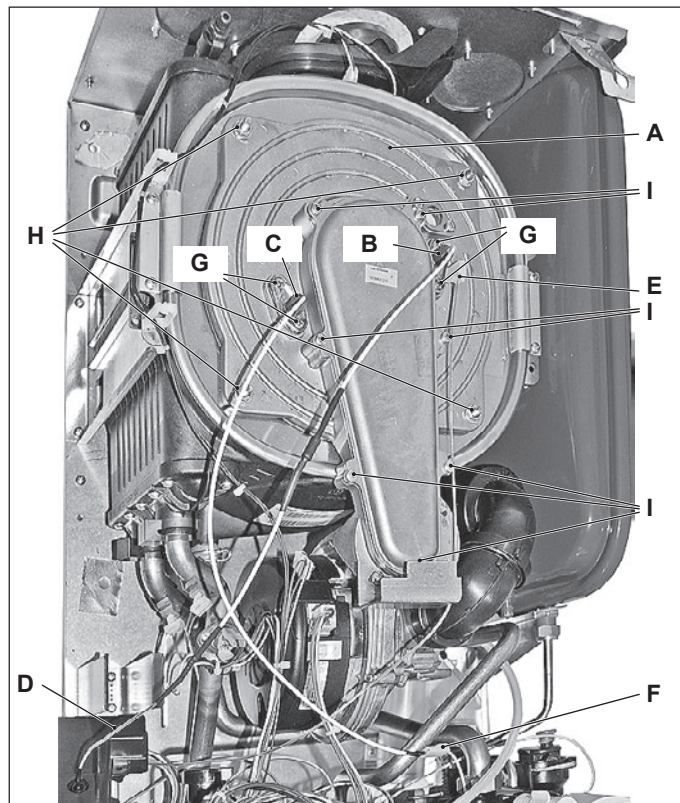

Figure 18.1
- 2 Disconnect the ignition electrodes connector D and the earth wire E (Figure 18.1) and disconnect the detection electrode connector F.
- 3 Unscrew the screws H (Figure 18.1) and remove the cover of the combustion chamber.
- 4 Unscrew the screws I (Figure 18.1) and remove the Air-gas duct lid.